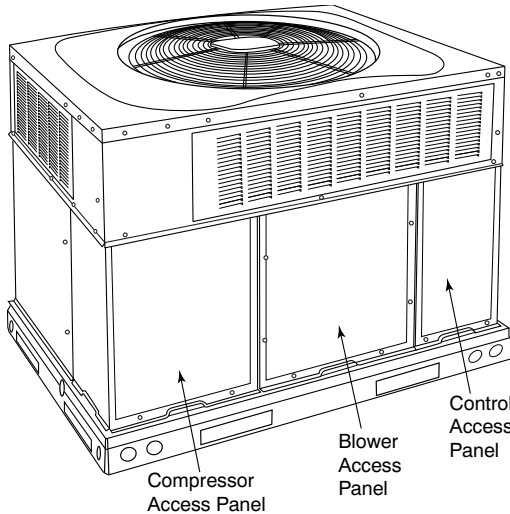

Fig. 18 – Unit Access Panels
- a. Remove blower access panel (see Fig. 18).
- g. Reinstall blower access panel (see Fig. 18).
1. Remove control access panel (See Fig. 18).
Remove blower access panel (see Fig. 18). Limit switch is located on the fan partition.
3. Remove control access panel (See Fig. 18).
Remove access panels (see Fig. 18) to locate all the electrical controls and wiring. Check all electrical connections for tightness. Tighten all screw connections. If any discolored or burned connections are noticed, disassemble the connection, clean all the parts, re-strip the wire end and reassemble the connection properly and securely.
After inspecting the electrical controls and wiring, replace the access panels (see Fig. 18). Start the unit, and observe at least one complete heating cycle and one complete cooling cycle to ensure proper operation. If discrepancies are observed in any operating cycle, or if a suspected malfunction has occurred, check each electrical component with the proper electrical instrumentation. Refer to the unit wiring label when making these checkouts.